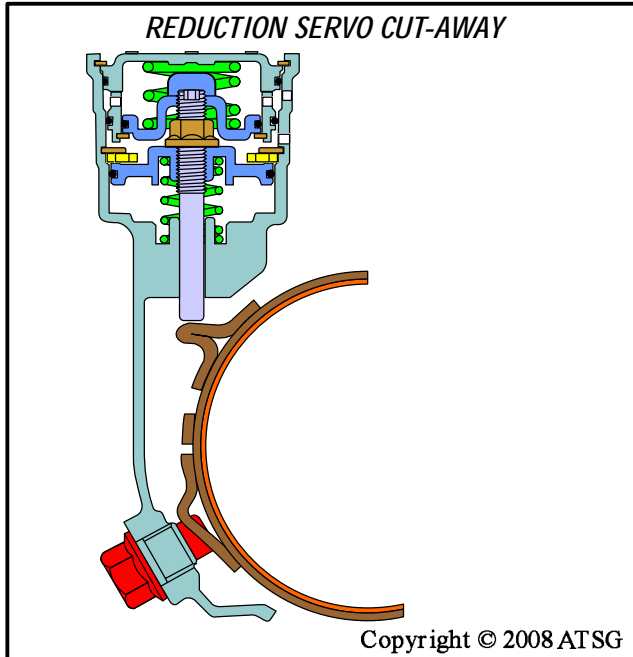

Figure 46
**Note:** *Reduction Servo cut-away provided for you in Figure 46.*